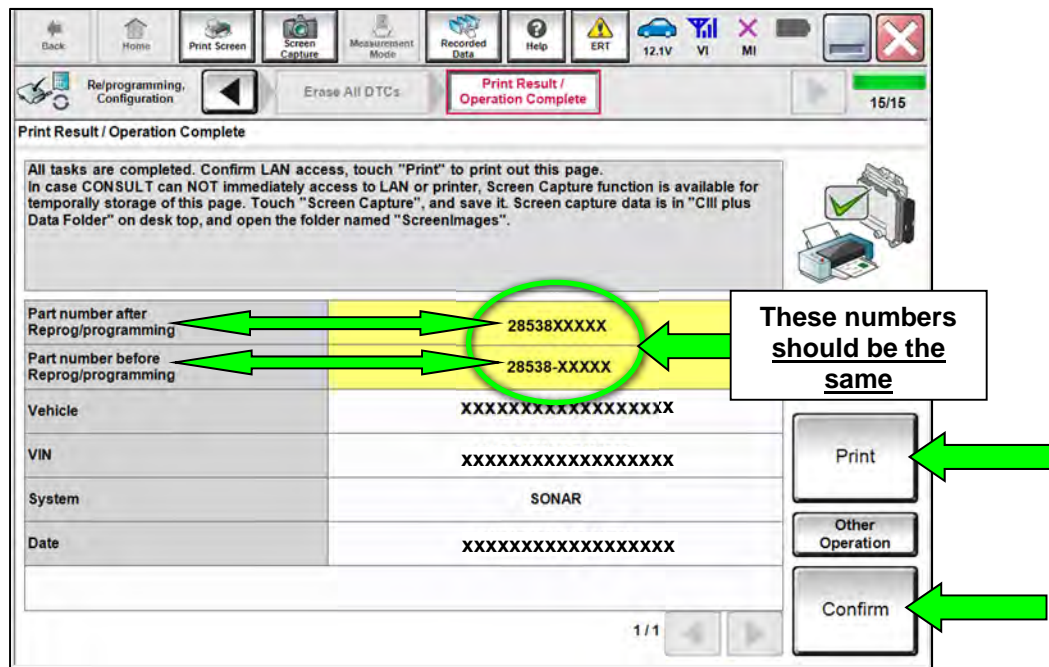

Figure 24
HINT: When the entire reprogramming process is complete, the screen in Figure 24 on page 17 will display.
41. Print a copy of the screen below (Figure 24) and attach it to the repair order for warranty documentation.